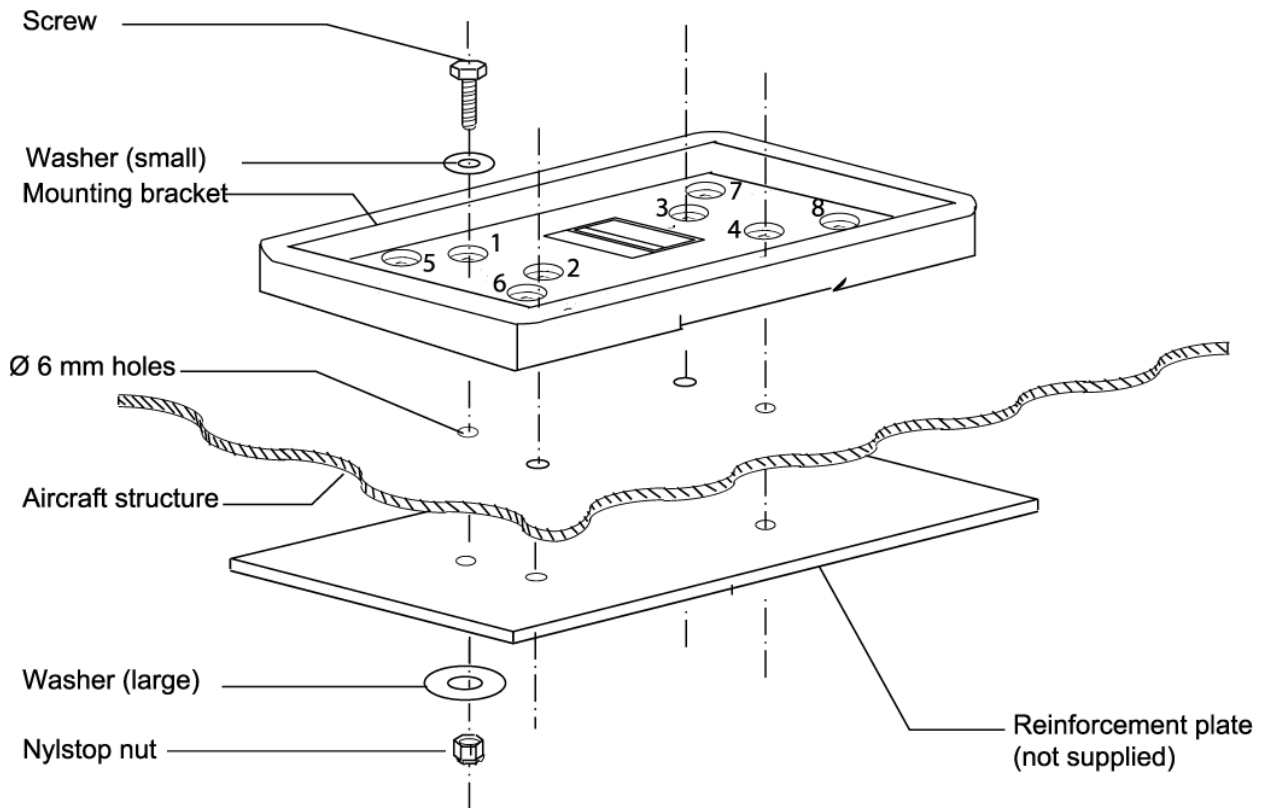

Figure 203: Bracket installation
- If the aircraft structure is not solid enough to withstand a 500 kg traction on the bracket, a reinforcement plate (not supplied) should be installed as shown Figure 203: Bracket installation.